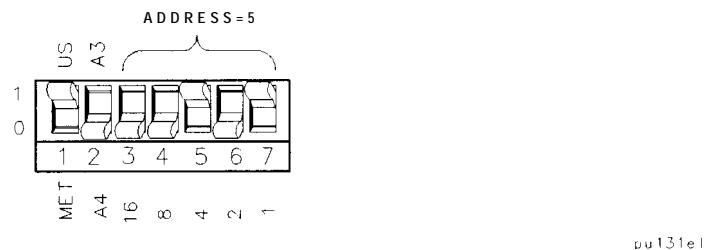

Figure 6-6. HP 7475A Plotter Switch Settings
3. Figure 6-6 shows an example of a typical plotter's switch setting.